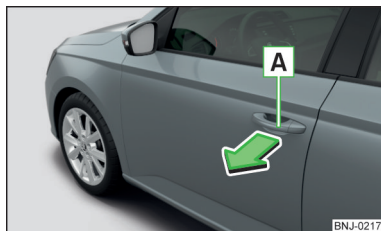

Fig. 47
- To **open from the outside**, unlock the vehicle and pull the door handle in the direction of the arrow » Fig. 47.